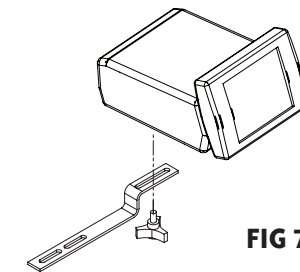

FIG 7
11. Secure control unit to mount with knob and washer, see FIG 7.